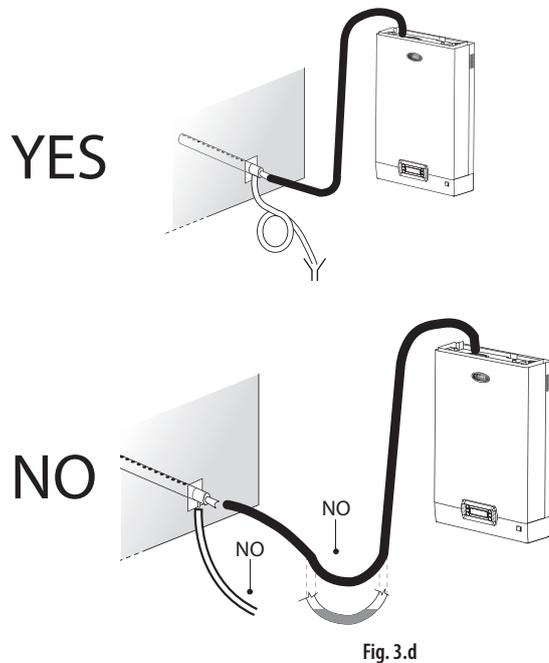

Fig. 3.d
To drain the condensate, connect a drain hose with a drain trap and a minimum slope of 5° to the bottom of the humidifier (see Fig. 3.d). CAREL condensate drain hoses: code 1312353APG
- the steam outlet hoses run upwards and the distributor has a minimum incline of 2° upwards (see Fig. 3.c);
- the paths of the steam and condensate hoses are as described in this chapter (see Fig. 3.d);